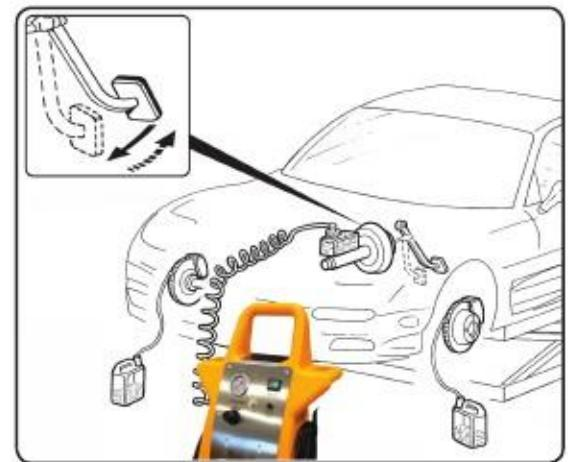

Fig. 8
**NOTE:** When brake bleeding and/or brake fluid changing is complete, test the action of the brake pedal to ensure that the brakes are working correctly and are not spongy, before taking the vehicle onto the road. (Fig. 8)